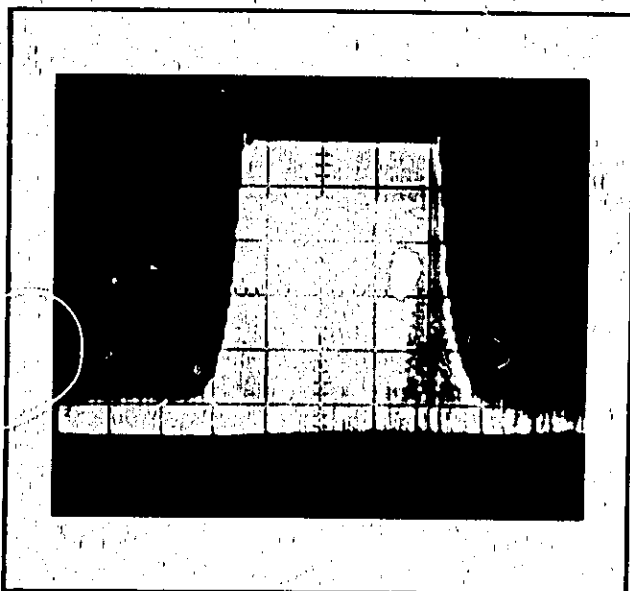

Figure 4-1. Sawtooth Spectrum
12. Press the INT 1 kHz key again and verify that its annunciator goes off. Then press the FM INT \sim key and verify that its annunciator lights. The spectrum analyzer display should appear similar to the one shown in Figure 4-1.